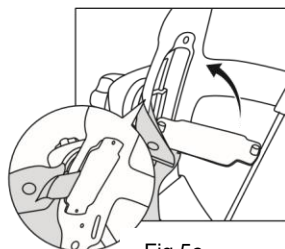

Fig.5c
Step 3: Fasten the snap buttons on the headgear securely. (See fig.5c).